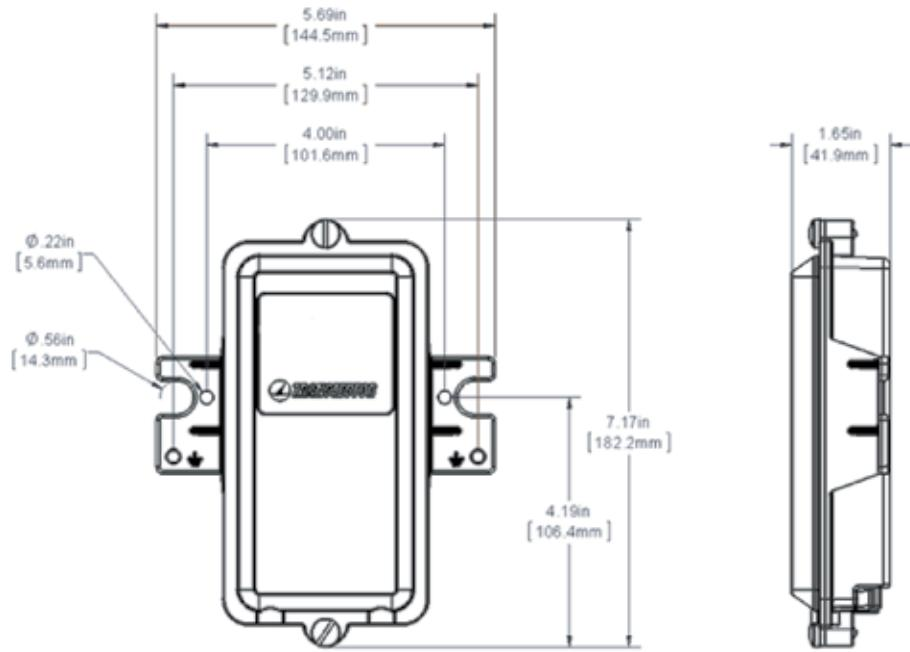

Figure 1 - Mechanical Outline Drawing (in[mm])
2. Mount the device using the two mounting holes, as close to the equipment to be protected as possible with the strain reliefs facing the ground as shown in Figure 1.
6. The ALPU incorporates a 1/4-20 ground stud. Attach a ground reference wire (minimum 8 AWG) as short as possible (less than 3 feet) between this stud and the site grounding point. The two optimum ground connection points are shown on the metal enclosure (see Figure 1).